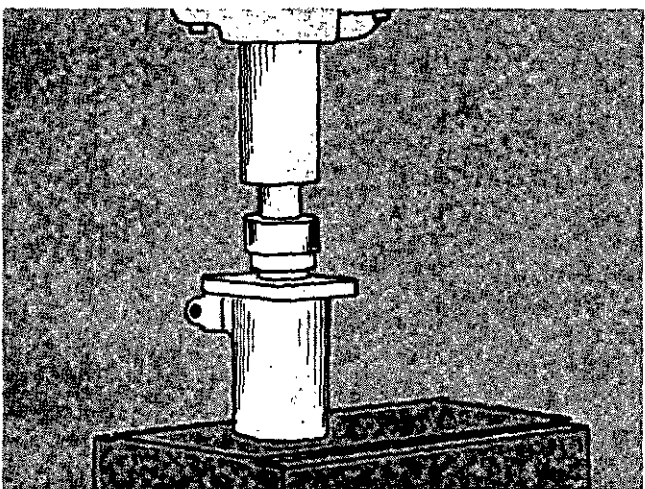

Fig. 4-30. Install The Shaft Guide.
11. Install a new O-ring onto the shaft guide. With the O-ring up, push the shaft guide into the housing, Fig. 4-30. Use the 3376024 tool to install the shaft guide.